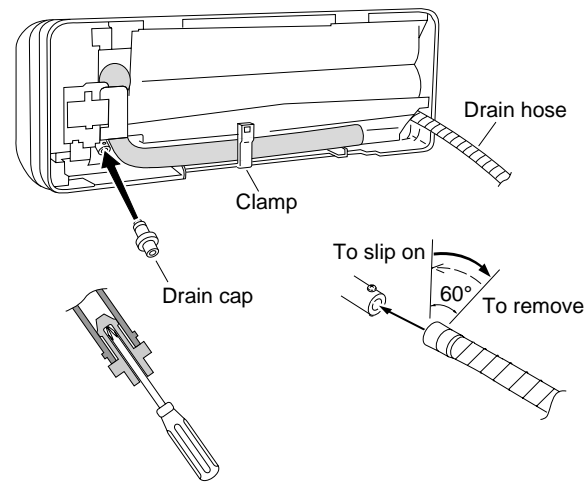

Fig. 27c
- Reattach the drain hose to the left side and the drain cap to the right side. (Fig. 27c)